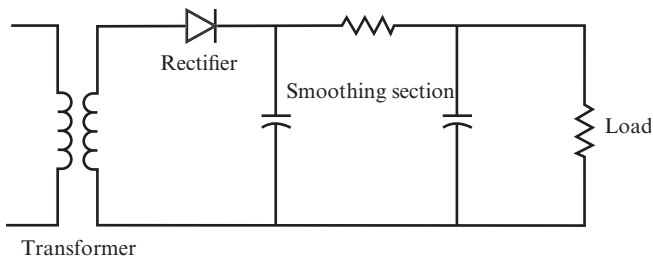

FIGURE 11.31
14 A basic power supply circuit can be divided into four sections, as shown in Figure 11.31.
- B.** Will the power supply circuit shown in Figure 11.31 result in full- or half-wave rectification? _____
- C.** What type of output will the rectifier section of the power supply circuit shown in Figure 11.31 produce? _____